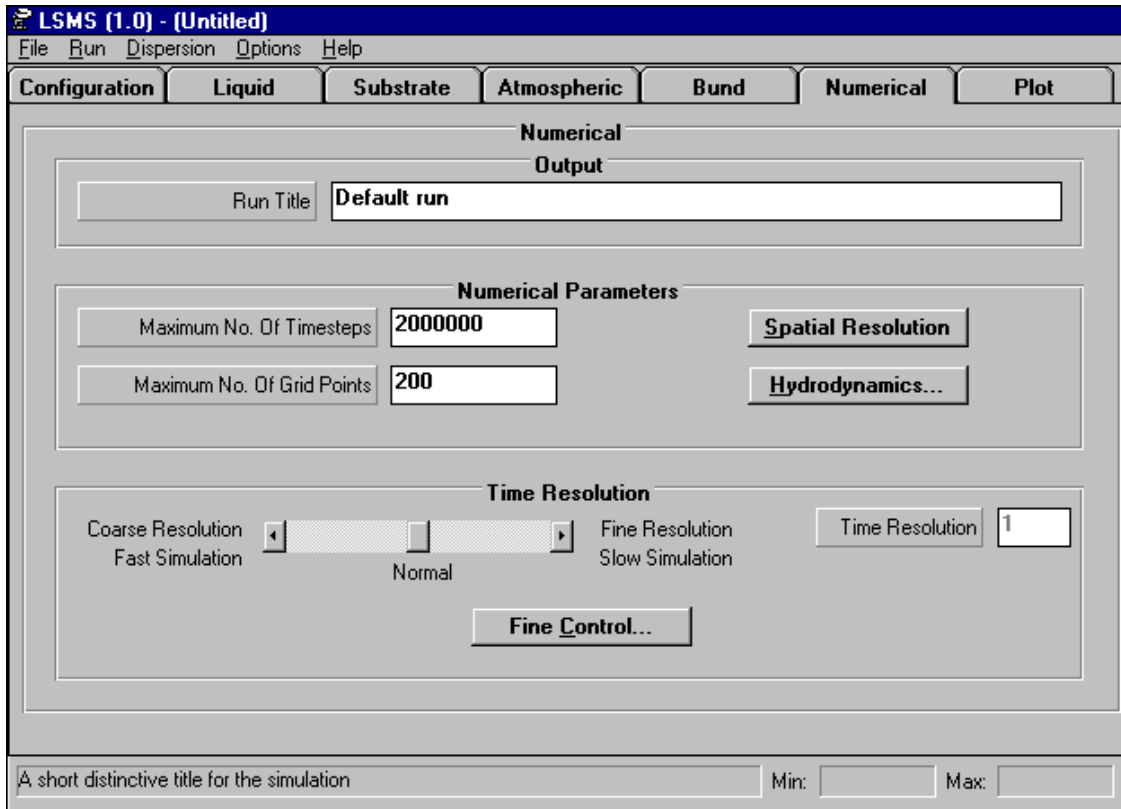

Figure 15 The Numerical folder
The Numerical folder (see Figure 15) describes aspects of the numerical solution of the governing equations, and also contains the run title. It contains three sections: (1) Output, (2) Numerical Parameters and (3) Time Resolution.